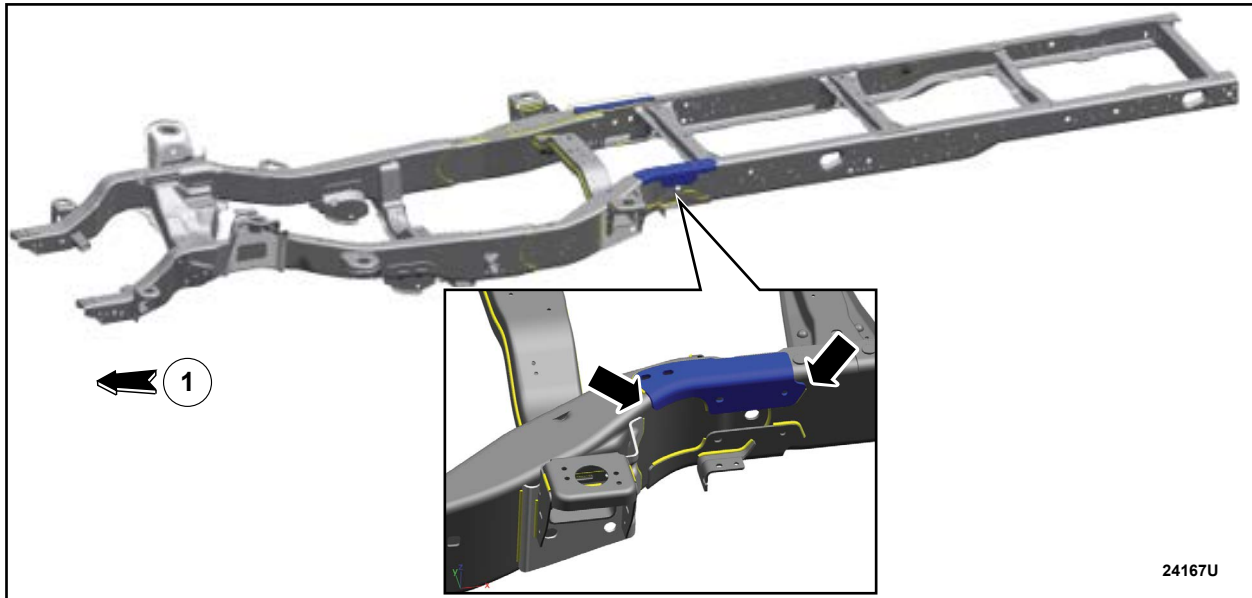

FIGURE 1
1. Identify and inspect the areas where the frame rail may exhibit signs of stress or a crack. See Figures 1 through 6. Using compressed air, clear any debris that may be on the frame rails.
LOCATION 1 - UPPER FRAME RAIL BEHIND CAB - See Figures 1 and 2.